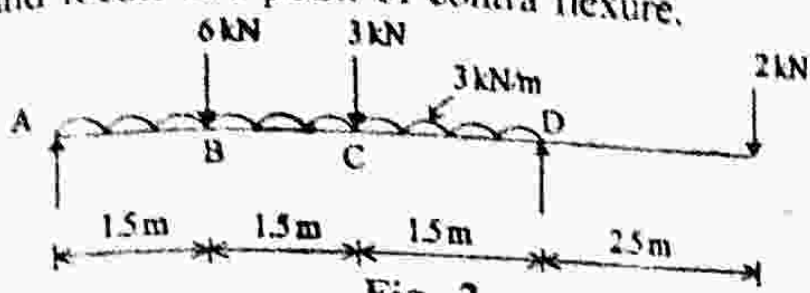

Fig. 2
3. Draw S.F. and B.M. diagram for the loaded beam shown in Fig. 2 and locate the point of contra flexure. (13)